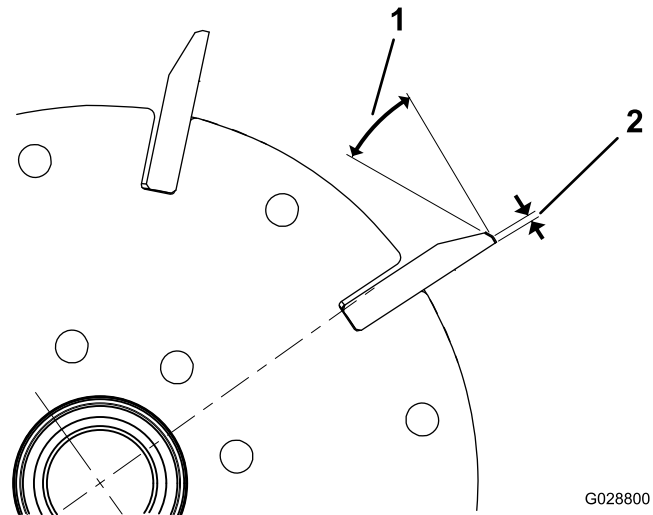
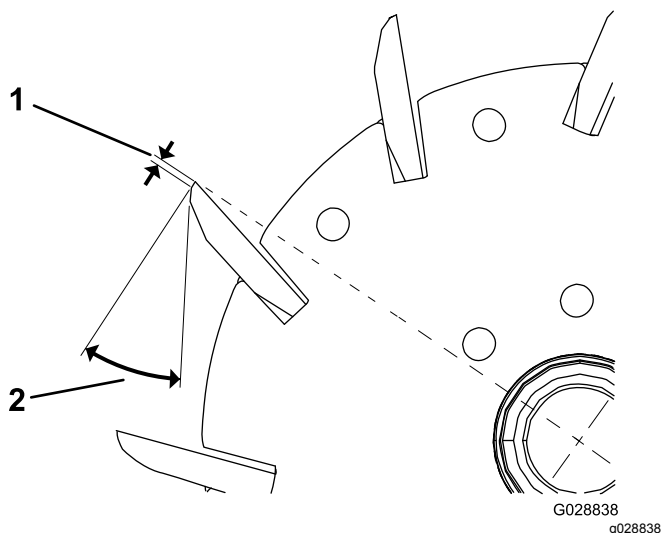

Figure 13
Figure 14
1. Apply a 30 degree relief grind on all reel blades until the land width is 1.3 mm (0.050 inch) wide (Figure 13 and Figure 14).